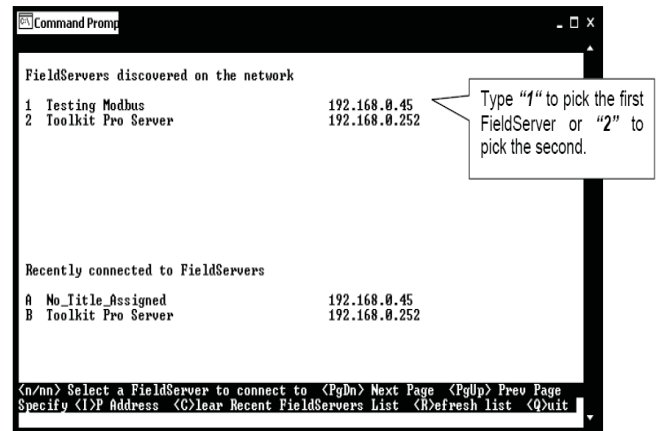

Figure 10: RUINET PT-Link Selection Menu
5.) On subsequent connections, a list of PT-Links that have been recently connected may appear under the message "Recently connected to FieldServers". Select the required PT-Link by typing the Number or Letter in the left hand column. (**Figure 10**).